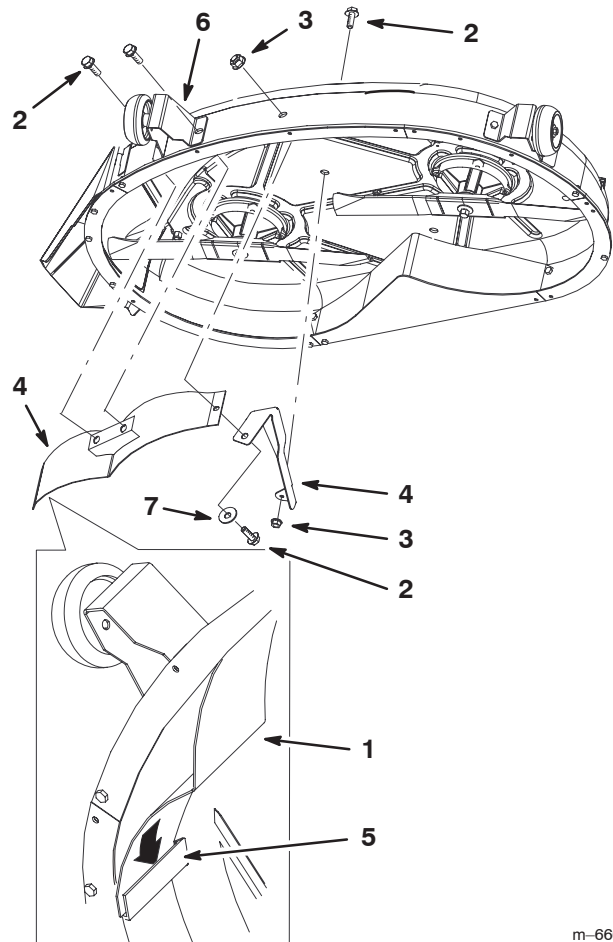

Figure 3
3. Remove the bolts from the mower wheel bracket and mower (Fig. 3). Save the locknuts for use when converting back to side discharge mode.
4. Install the front baffle into the slot in the discharge cover (Fig. 3).
5. Install the front baffle and mower wheel bracket to the mower with two bolts removed in step 3 (Fig. 3).
6. Install the front baffle together with the middle baffle to the front of the mower with a bolt (5/16 x 5/8 inch), washer (5/8 inch) and a locknut (5/16 inch) (Fig. 3).
7. Install the middle baffle to the top of the mower with 1 bolt (5/16 x 5/8 inch) and locknut (5/16 inch) (Fig. 3).
2. Remove the middle baffle by removing the nut and bolt from the top of the mower and the nut, bolt and washer from the front baffle (Fig. 3). Save this hardware.
3. Remove the bolts from the front baffle and remove the baffle (Fig. 3).